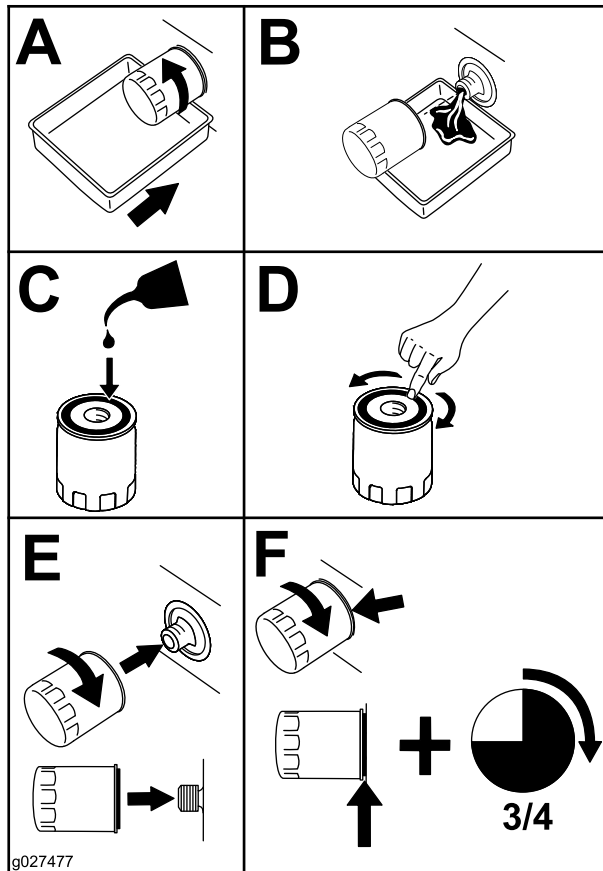

Figure 42
2. Change the engine oil filter (Figure 42).